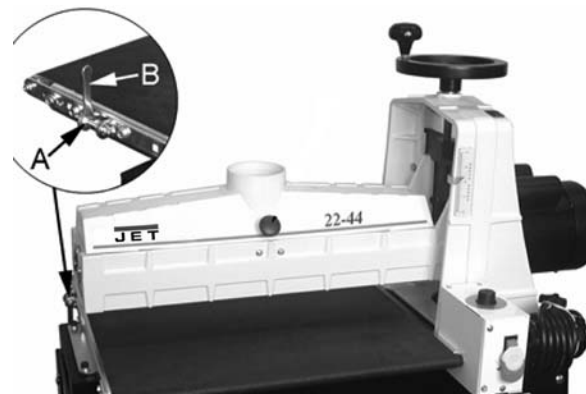

Figure 20
Tension. To adjust the tension of the conveyor belt, first adjust the take-up screw nut (A, Figure 20) using the attached wrench (B, Figure 20). Do this on both sides of the conveyor to obtain approximately equal tension on both sides of the belt when taut. Insufficient belt tension will cause
3. Loosen the conveyor take-up screw nuts (A, Fig. 20) to relieve belt tension, and slide the driven roller fully inward.